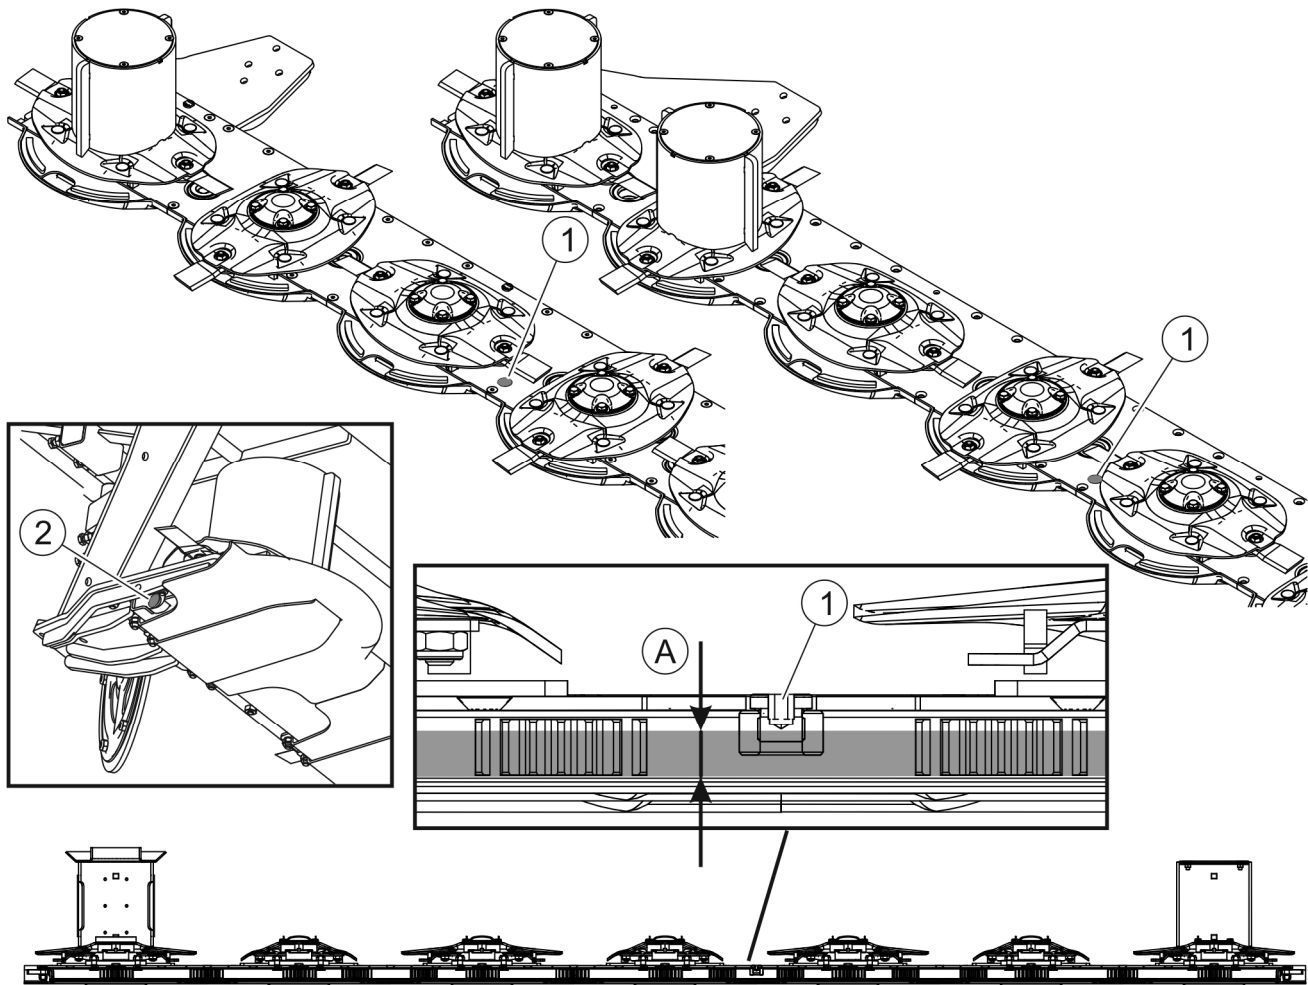

FIGURE 5.7 Checking oil level in cutter bar
(1)- inspection / filler plug; (2)- drain plug; (A)- correct oil level $6 \div 8\text{mm}$ from the cutter bar bottom
The correct oil level (A) with cutter bar in horizontal position is $6 \div 8\text{mm}$ from the cutter bar bottom. To check oil level remove inspection / filler plug (1) located between the third and fourth disk (PDF301 / PDF301C) or fourth and fifth disc (PDF340 / PDF340C) (FIGURE 5.7). When oil is cold wait approximately 15 minutes before checking the oil level. Check the oil level on a level cutter bar.
- unscrew the inspection / filler plug (1) (FIGURE 5.7),
- unscrew the drain plug (2) and drain oil to previously prepared container,
- tighten the drain plug (2),
- position the cutting unit horizontally and pour the required quantity of oil through the inspection / filler hole (1).